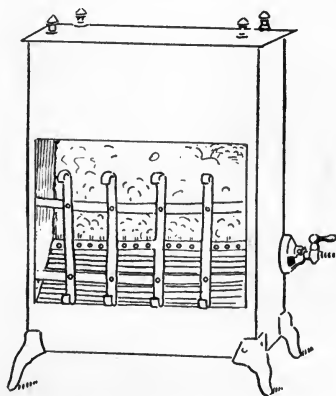

FIG. 39. Gas heater showing air mixer.
78. Bunsen Burner and Asbestos-Back Heater. The burner is a long pipe punctured with holes extending across the stove. There is an opening for mixing of air with the gas at the point where this pipe enters the stove, and a valve to regulate the flow of gas (Fig. 39).